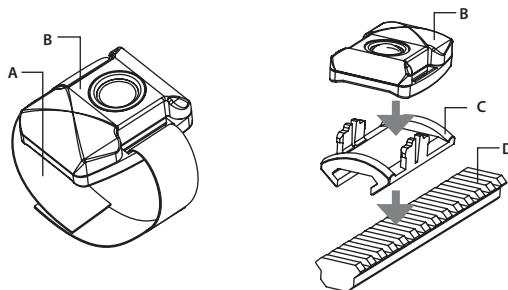

FIGURE 3-5. ADVANCED WIRELESS REMOTE CONTROL
Using Velcro tape (A, Figure 3-5), fasten the remote control (B) to your weapon in an easily accessible place (e.g., on the front of the rifle stock).